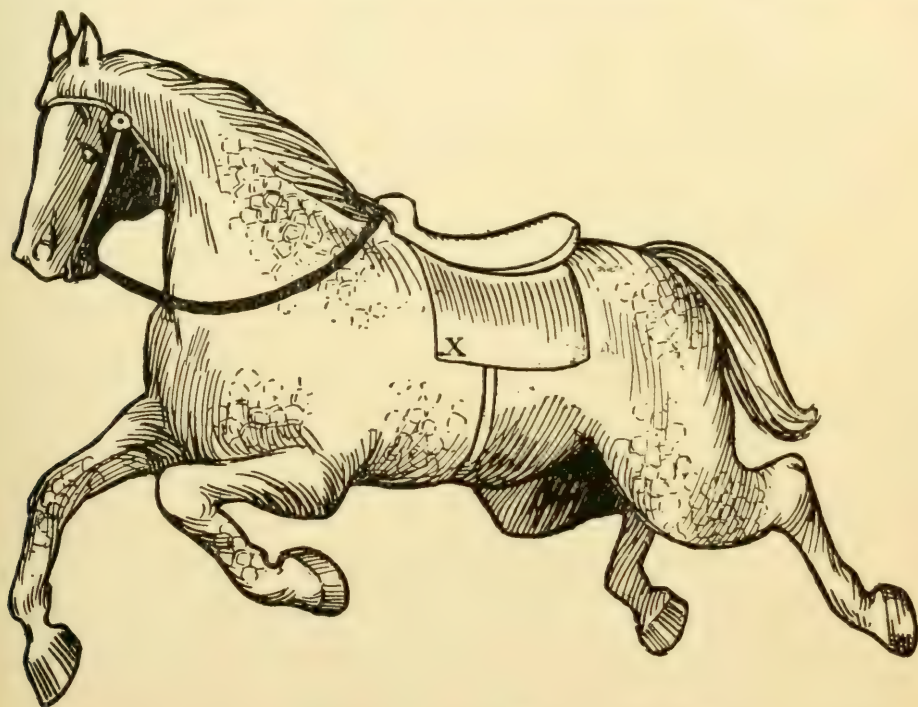
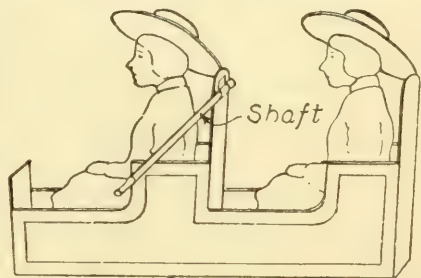

FIG. 261. — Full-size Pattern for the Horses of the Merry-go-round.
FIG. 263. — A Completed Sleigh showing Attachment to Shaft.
**The Horses.** A full-size pattern for these is shown in Fig. 261. Take a piece of *tracing-paper* or any thin
To fasten the horses to the shafts, punch a hole through three of them at *X* (Fig. 261) and slip each one over a shaft, then tack the other three horses to the ends of these shafts at the point *X*. To fasten the sleighs to the remaining shafts, glue one end of a piece of paper to the back of the front seat and the other end around the shaft (Fig. 263).